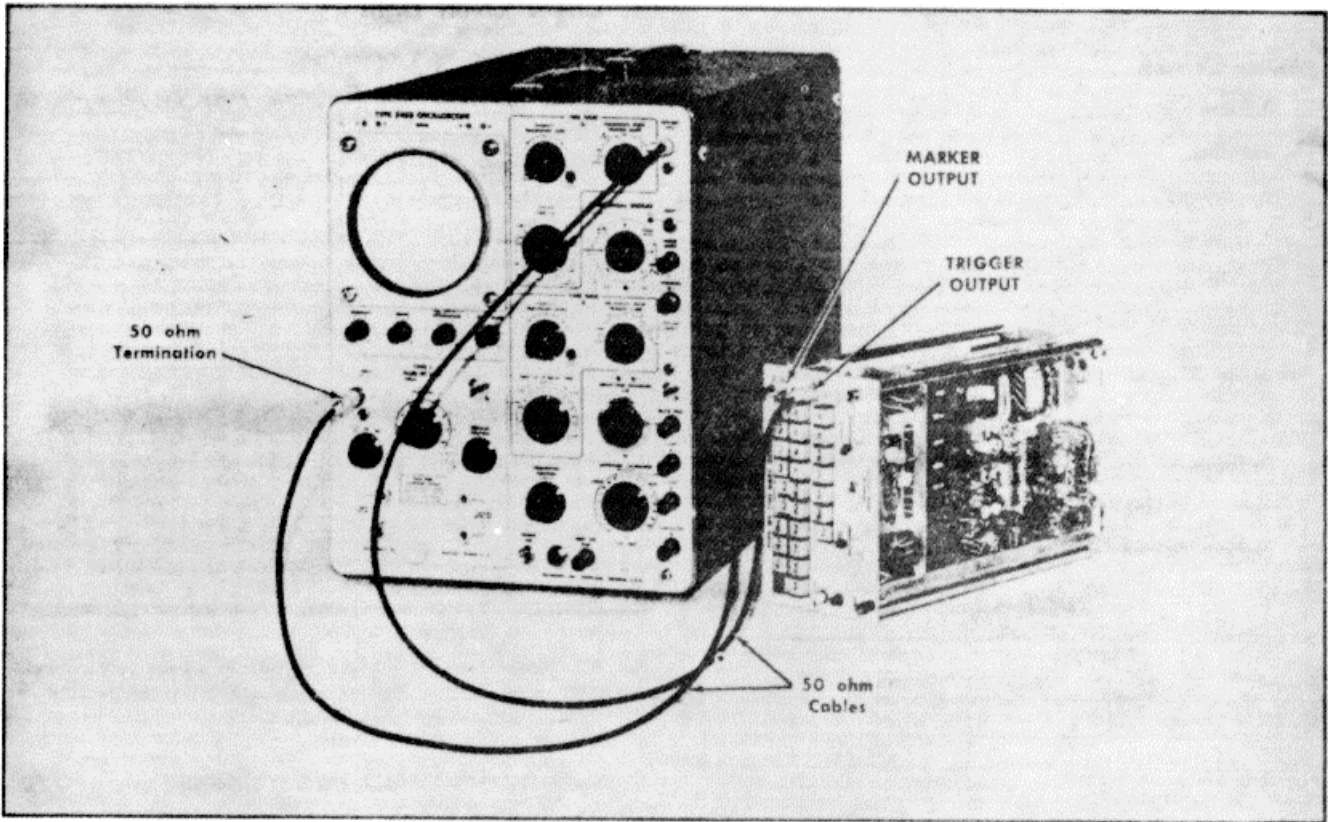

Fig. 6-11. Test equipment setup for checking time-marker accuracy and amplitude. Step 6 and step 7.
6. Adjust Marker Timing (1)
- a. Test equipment setup is shown in Fig. 6-11.